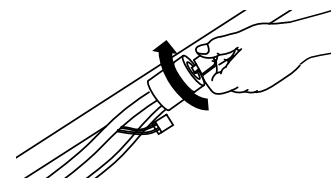
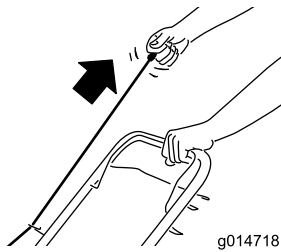

Figure 15
Figure 16
2. Turn the ignition key (electric-start model only; refer to Figure 15) or pull the recoil-start handle (Figure 16).